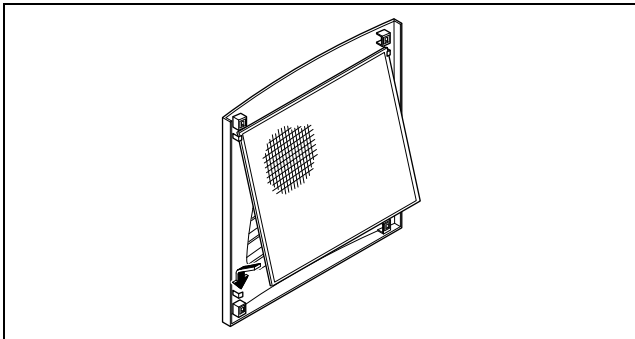

Fig. 16: Install the filter mat
- Insert the filter mat into the louvred grille as shown in fig. 16 and push it back onto the housing.